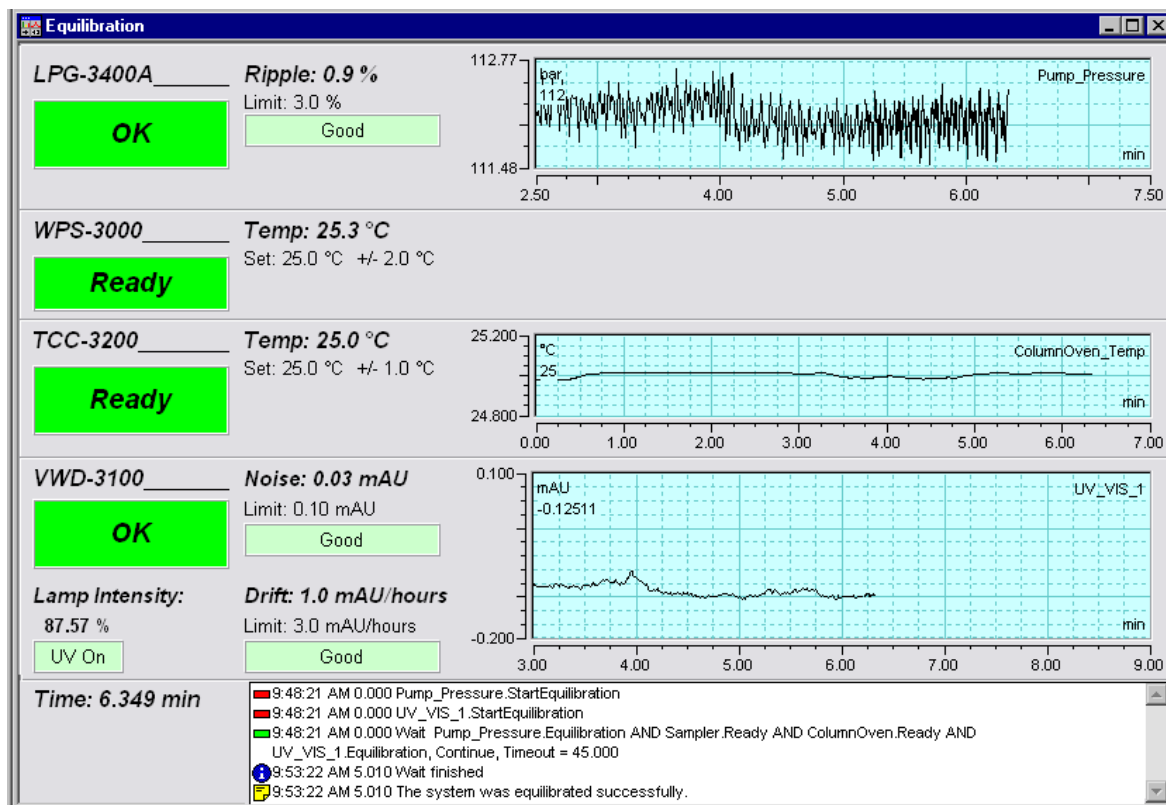

Fig. 16: Equilibration window
- ◆ Opens the equilibration control panel for the instruments in the timebase (→ Fig. 16, page 53).